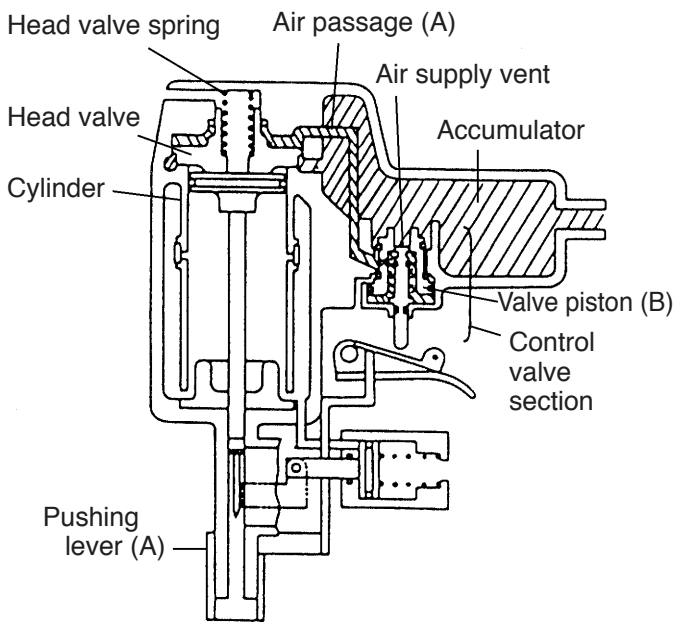

Fig. 6 Prior to nailing
(1) Prior to nailing (See Fig. 6.)